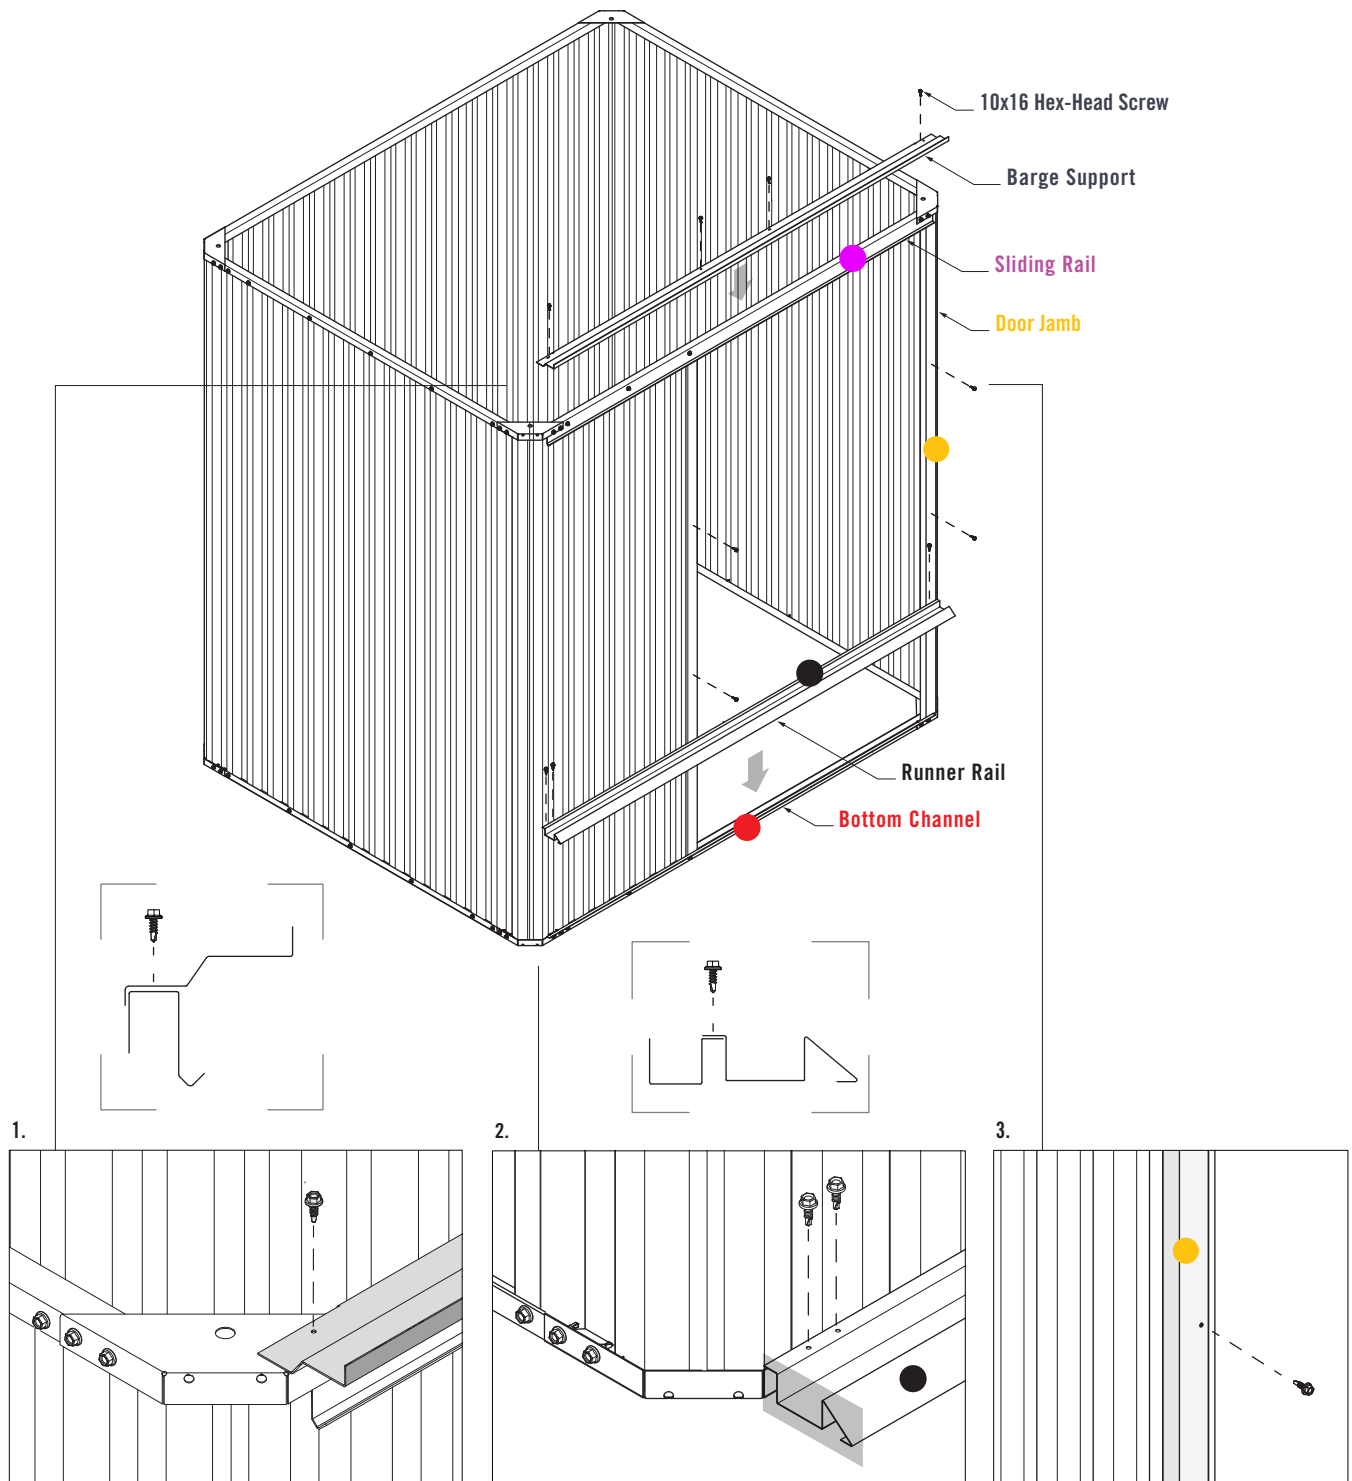

FIGURE 6.2
1. Fit the Barge Support over the **Sliding Rail**. Fasten four 10x16 Hex-Head Screws through the pilot holes in the Barge Support and into the **Sliding Rail** (Figure 6.2).
2. Fit the Runner Rail over the **Bottom Channel**. Ensure the end of the Runner Rail is in line with the edge of the Corner Bracket. Fasten three 10x16 Hex-Head Screws through pilot holes in the Runner Rail and into the **Bottom Channel** (Figure 6.2).
3. Fasten two 10x16 Hex-Head Screws through the pilot holes of both **Door Jambs** and into the Wall Sheets (Figure 6.2).